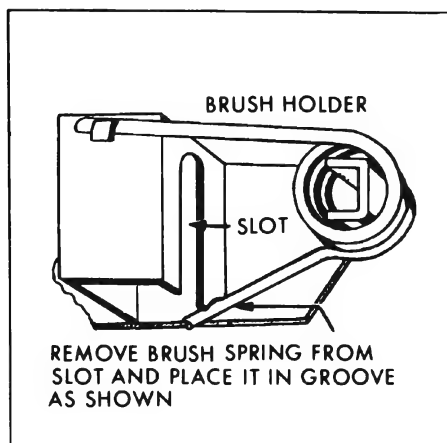

Figure 10-104—Releasing Brush Holder Spring Pressure
(1) Open armature.
(2) Brushes sticking.
(3) Brush springs improperly positioned (See Figure 10-104).
2. Release brush spring pressure against brushes as shown in Figure 10-104.